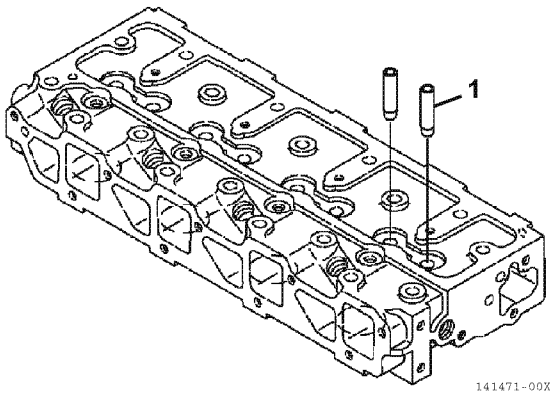

Figure 6-30
2. Immediately after removing the valve guides from the freezer, insert the valve guides (1, Figure 6-30) in their proper positions.